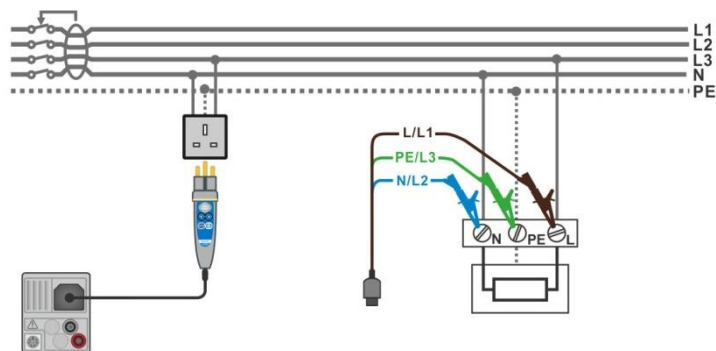

Figure 7.105: AUTO TN (RCD) measurement
- Connect test leads or Plug commander to the object under test, see **Figure 7.105**.